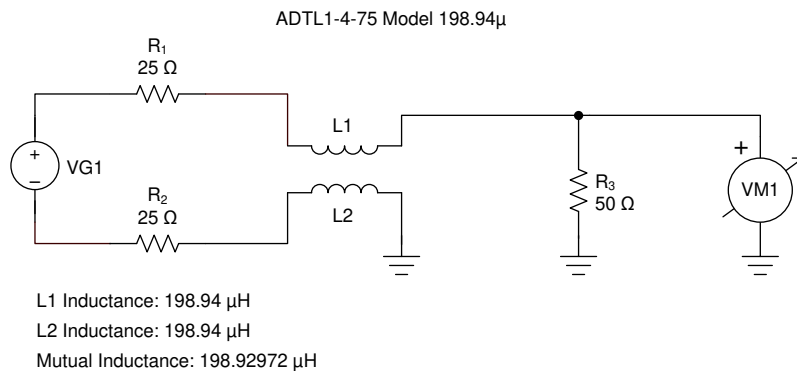
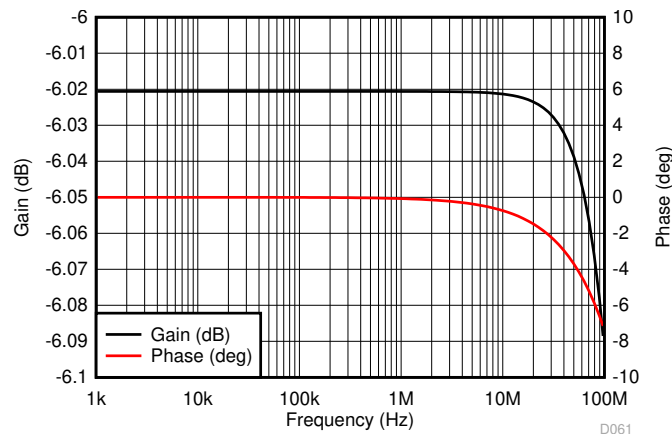

图 8-2. Output Measurement Balun Simulation Circuit in TINA-TI™
图 8-3. Output Measurement Balun Flatness Test
- In the pass band for the output balun, the $50\text{-}\Omega$ load of the network analyzer reflects in parallel with the $52.3\text{-}\Omega$ shunt termination, R_M . These elements combine to show a differential $1\text{-k}\Omega$ load at the output pins of the THS4561. The source impedance presented to the balun is a differential $50\text{-}\Omega$ source. 图 8-2 and 图 8-3 show the TINA-TI™ model (available as a TINA-TI™ simulation file) and resulting response flatness for this relatively low-frequency balun providing 0.1-dB flatness through 100 MHz .